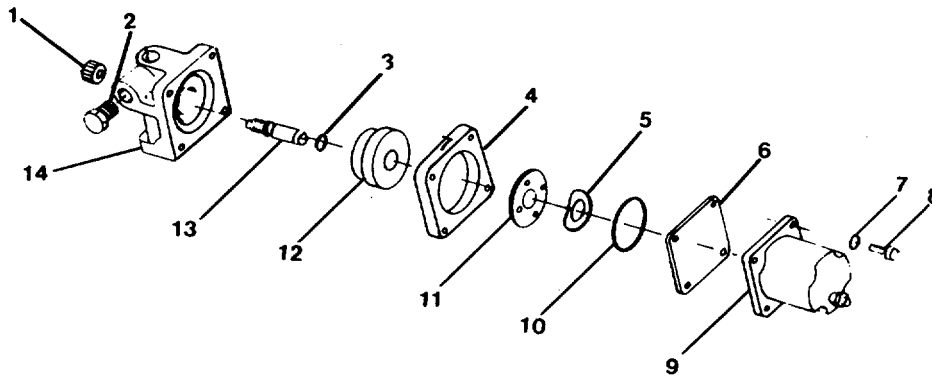

FIGURE 3-8. Shutdown Valve Assembly.
- p. Install rigid connecting links (11, 12, 13 and 14), springs (9) and ball bearings (8 and 10) in lube oil filter head (54).
- q. Lubricate detent plunger (21) and plain encased seal (23) with clean engine lube oil. Install detent plunger (21), spring (22), seal (23) and access cover (24).
- r. Install flat washer (25), lockwasher (26) and hexagon head capscrew (27). Tighten to 35 ft-lb (40 N•m).
3.16. Repair Shutdown Valve Assembly. (FIG. 3-8)